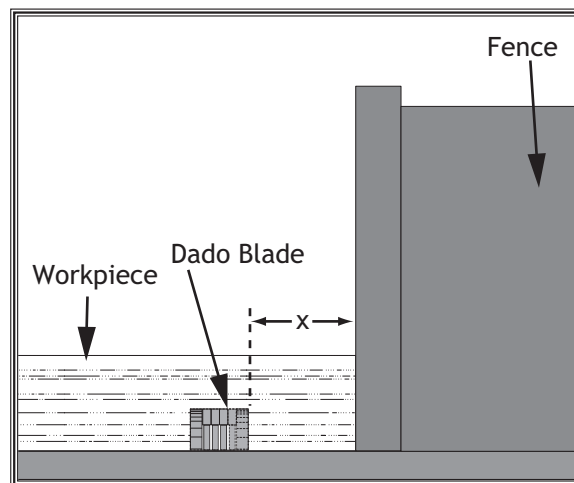

Figure 48. Stacked or wobble dado cut.
6. Adjust the distance between the fence and the inside edge of the blade as shown in **Figure 48** to dado the length of a workpiece.